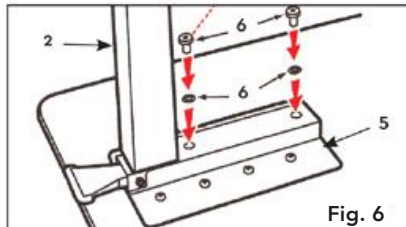

Fig. 6
5. Install two 1/4" Washers and #12 1/4" Bolts (6) through the vertical holes in the Mounting Bracket (5) and into the threaded holes in Column Assembly (2) as shown in Fig. 6.